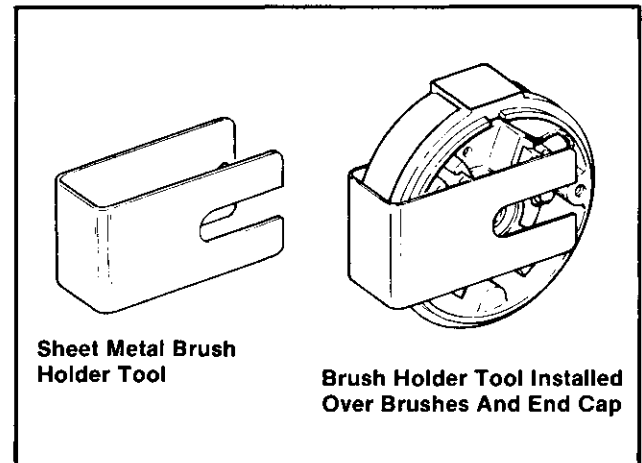

Figure 8-22. Brush Holder Tool
NOTE: Use a brush holder tool to keep the brushes in the pockets. A brush holder tool can easily be made from thin sheet metal. Refer to Figure 8-22.
3. Install the brush holder tool to keep the brushes in the pockets of commutator end cap. Refer to Figure 8-22.